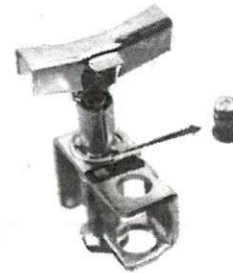

Fig. 4
- The pilot orifice should drop out of the pilot hood as Fig. 4 shows. If it does not, gently pry it out.